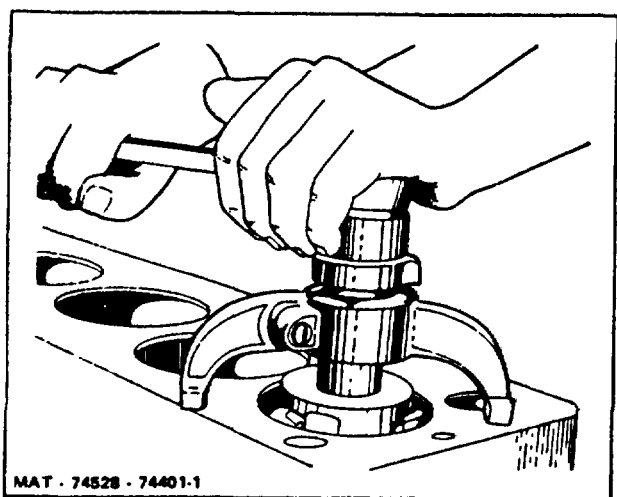

Figure 63. Ridge Reaming Top of Cylinder Bore.
1. Ridge ream the cylinders to remove the unworn area at the top so that new rings, when assembled, will not bump and distort both themselves and the piston lands (Figure 63).